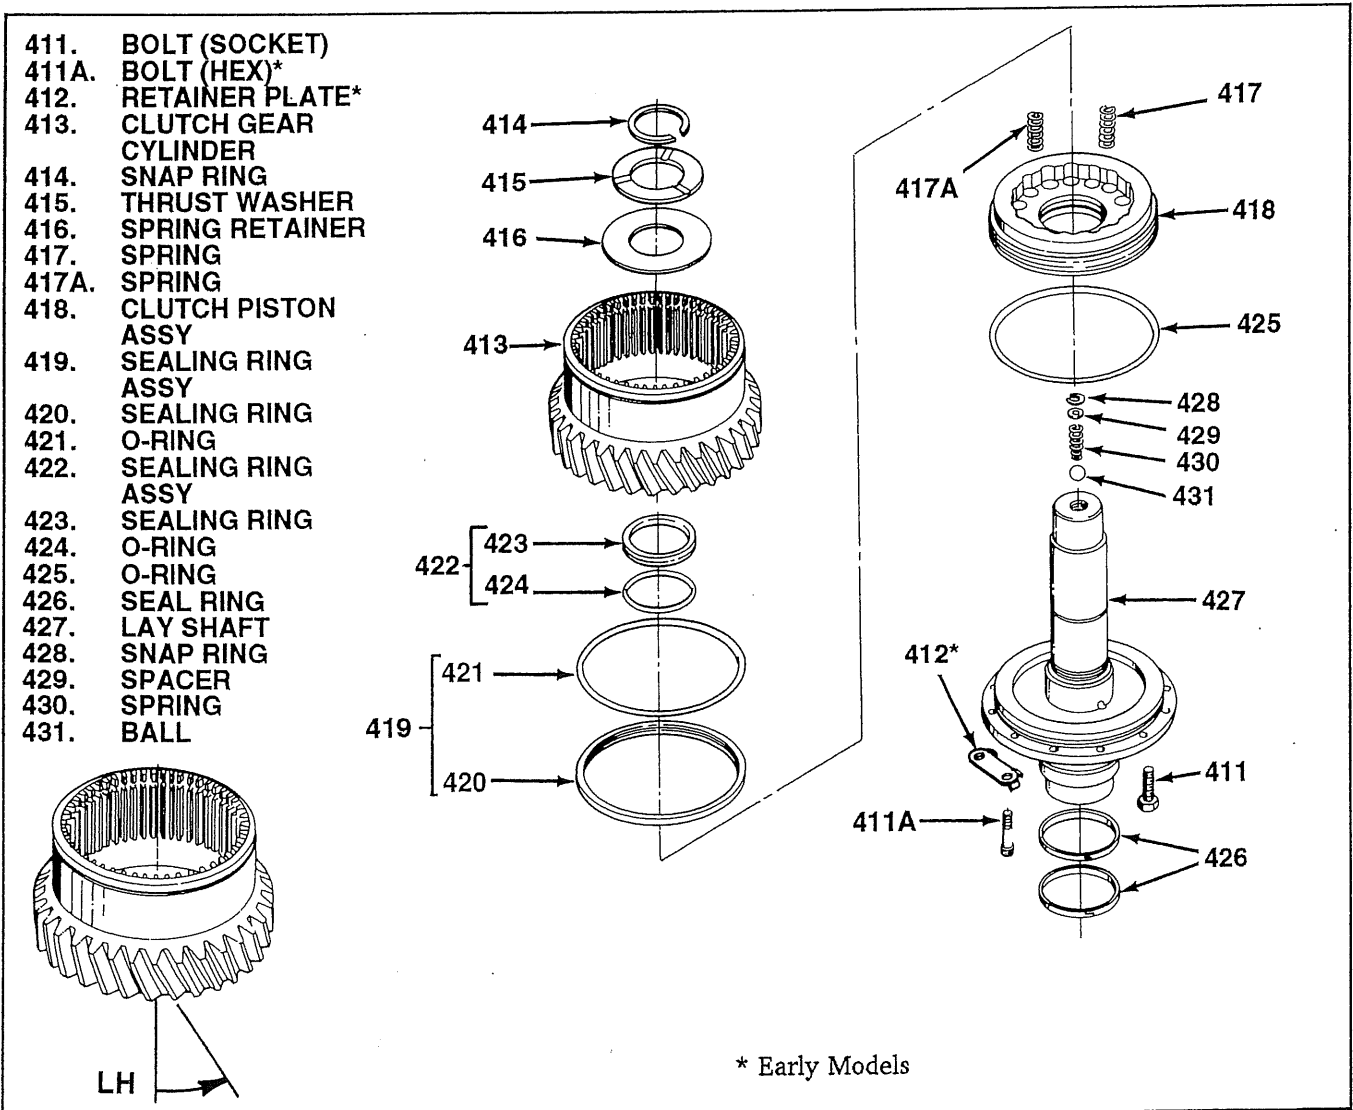
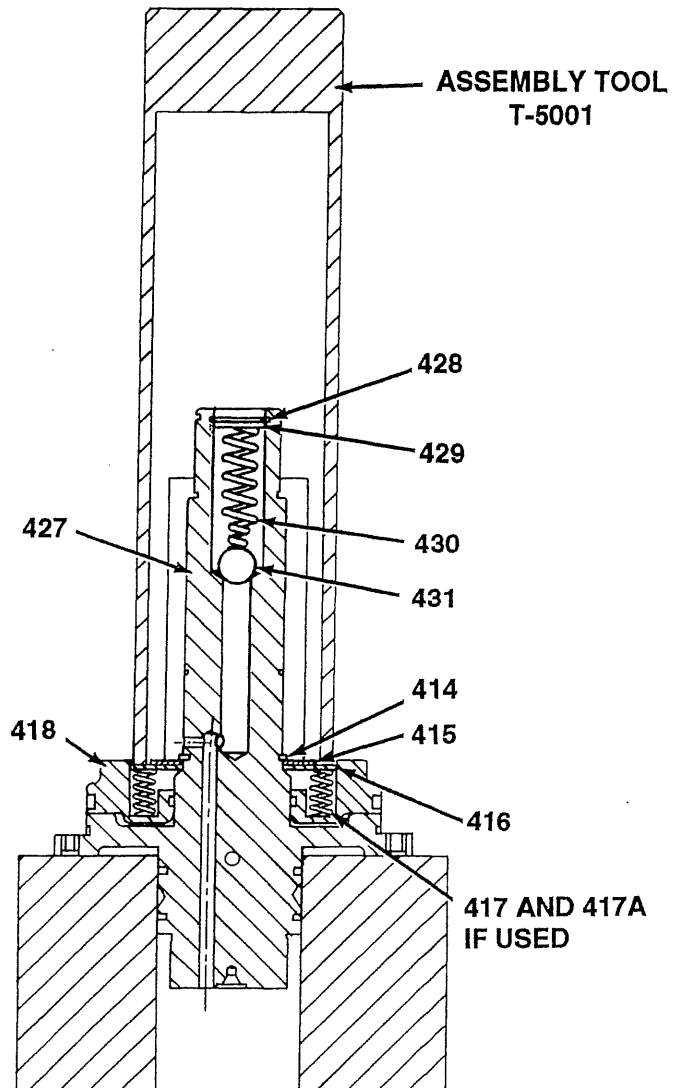

Figure 3-15. Lay Clutch Cylinder and Piston
Figure 3-16. Removing Snap Ring
**3-23. REMOVAL OF CLUTCH CYLINDER AND PISTON.** Proceed as follows (see figure 3-15):
**CAUTION:** OD and ID of clutch piston assembly (418) and mating bore in clutch gear cylinder (413) and OD on lay shaft (427) are highly finished. Use care not to scratch or otherwise damage these surfaces. Damaged surfaces may result in fluid leakage and shift malfunctions.
1. Remove twelve bolts (411) and lock plates if used.
2. Remove clutch gear cylinder (413) from lay shaft (427).
3. Support lay shaft (427) in suitable holding fixture (see figure 3-16) in arbor press. Using assembly tool T-5001, press down on spring retainer (416) to compress springs (417, and 417A if used) slightly. Remove snap ring (414).
4. Slowly release arbor press, allowing springs (417, and 417A if used) to expand. Remove assembly tool, thrust washer (415), and spring retainer (416). Remove sixteen springs (417) (transmissions 2001-000-011 thru -016) or four springs (417) and twelve springs (417A) (transmissions 2001-000-001 thru -006 and 2001-000-R01 thru 2001-000-R06). Remove shaft assembly from arbor press and holding fixture.
5. Remove clutch piston assembly (418) from lay shaft (427). Remove sealing ring assembly (419), consisting of sealing ring (420) and o-ring (421), from groove in piston OD. Remove sealing ring assembly (422), consisting of sealing ring (423) and o-ring (424), from groove in piston ID.
6. Remove o-ring (425) and seal rings (426) from lay shaft (427).
7. Remove snap ring (428), spacer (429), spring (430) and ball (431) from lay shaft (427).